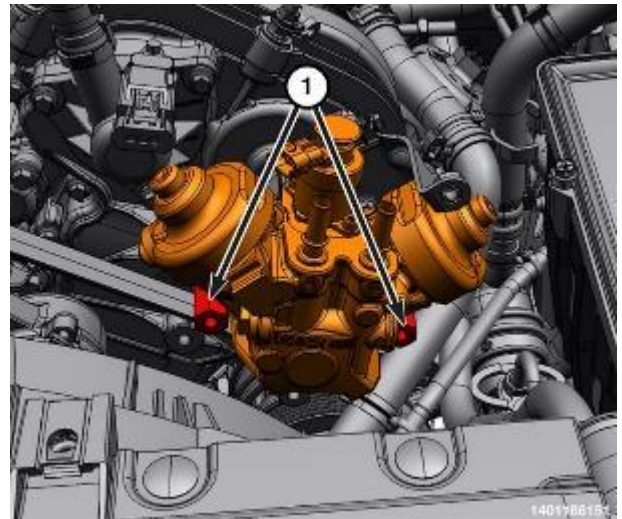

Figure 132 – Fuel Quantity Solenoid Connector and HPFP Upper Bolts
- 70. Remove the upper bolts (1) from the high-pressure pump (Figure 132). Using Tool, High Pressure Pump Installation VM.10345 Install the studs in the upper locations.